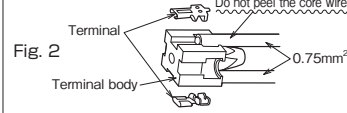

Fig. 2 Terminal body
5. Remove the terminals from the terminal body (the terminal body has three terminals, use the two opposed terminals No. 2 and 3), and put the core wires on the terminal body as shown in Fig. 2.